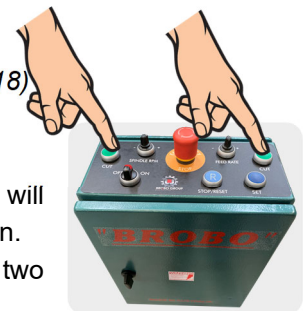

Figure 18. Dual Cut Button
- When ready to cut, press the two **CUT buttons** simultaneously, (Figure 18)